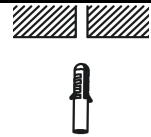
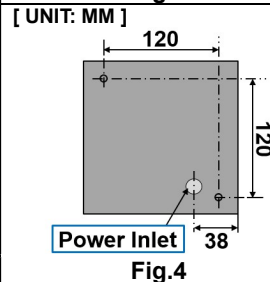

Fig.3
Fig.4
- Drill Four $\Phi 6 \times 35$ mm fixing holes according to the drawing (Fig.4) on the installation solid surface. Insert $\Phi 6$ mm expansion screw into the holes (Fig.3).